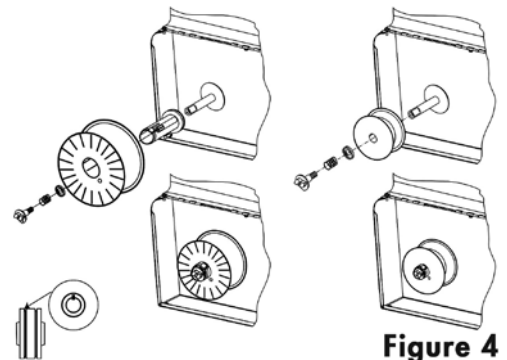
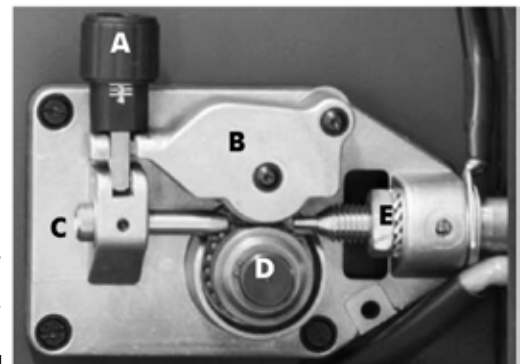

Figure 4
Figure 5
- Loosen the nut of the spool holder (brake drum) and remove the spring and the external ring. (Fig.4)
- Remove the plastic protection from the spool (4) and place the wire spool on the spool holder.
- Loosen and lower the plastic knob (A) (Fig.5). Open the pressure arm (B) of the feeder
- Disconnect the wire from the edge of the wire spool being careful to keep tension on the end of the wire. Cut off a short section of the end of the wire to insure a straight end. Insert the straight end into the wire inlet guide (C) past the wire feed roll and into the wire liner. Lower pressure arm (B) and lift pressure adjustment knob (A) into place. Connect the input power cord and turn on the welder. Press the torch trigger and observe the wire feeding into the torch liner. Adjust the pressure on the wire with knob (A) to insure smooth feeding without slippage. Do not over-tighten the pressure adjustment as it may damage the motor. Close the welder side panel. Remove the nozzle and contact tip from the welding torch. Straighten the torch cable to remove any coils or kinks. Squeeze and hold the torch trigger until the wire appears at the end of the torch neck. Turn off the welder and install the contact tip and nozzle.